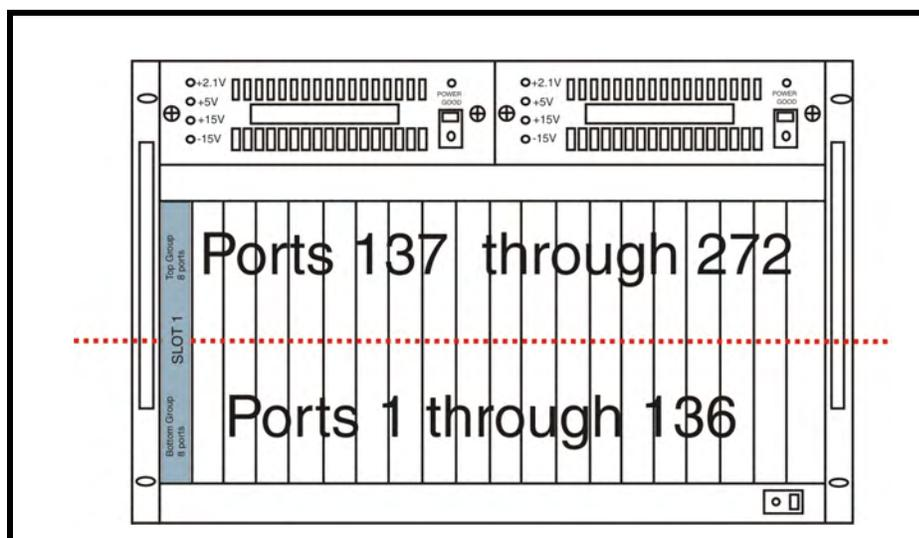

FIGURE 12. ADAM Frame with AIO-16 cards only and the port numbering scheme.
To be backwards compatible with the AIO-8 cards, the 16 channels had to be divided into two (2) separate groups of eight (8) channels per card (a bottom group and a top group). For example, if you have an AIO-16 card in slot one of an ADAM frame, the bottom group of eight (8) channels have ports 1-8 assigned to them, while the top group of eight (8) channels have ports 137-144 assigned to them, see Figure 12.